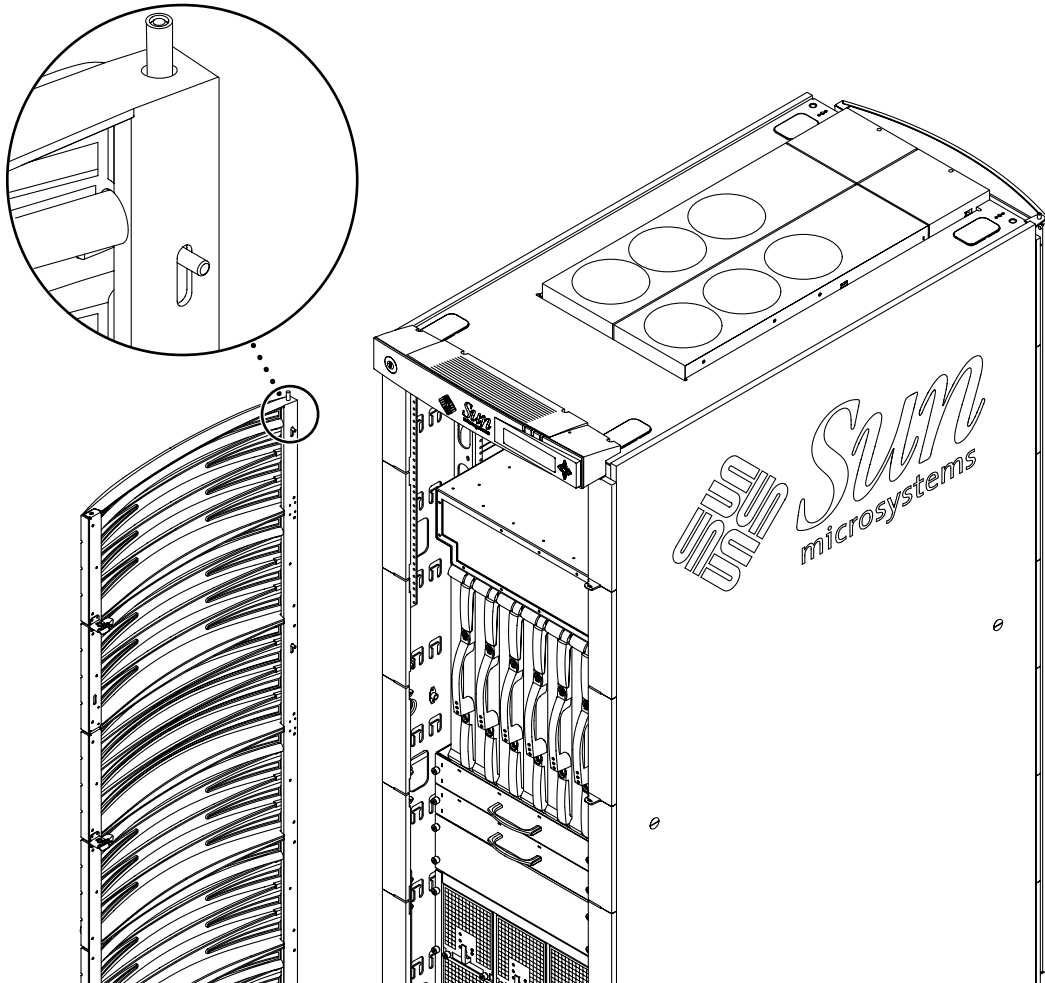

FIGURE 12-1 Removing the Door—Sun Fire 6800 System
3. Remove the front and rear doors by lifting the door panels off the hinges (FIGURE 12-1).